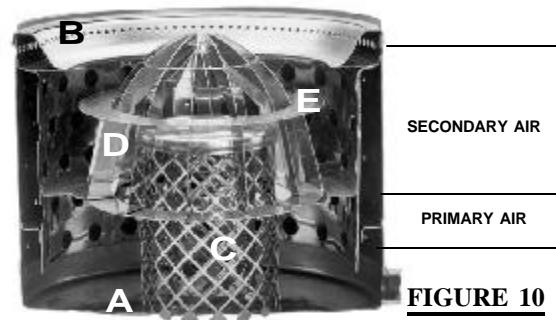

FIGURE 10
1. Through the open door, remove the catalyser components (items C, D and E, figure 10) from the burner.
Light with a long taper or wadded piece of paper. Immediately replace the catalyser components. **FIGURE 10.** Ensure that the top is centred.
Remove all three catalyser components. **FIGURE 10.** Remove any carbon residue and remaining oil from the burner using a slightly damp cloth. Buff dry before reinstalling.